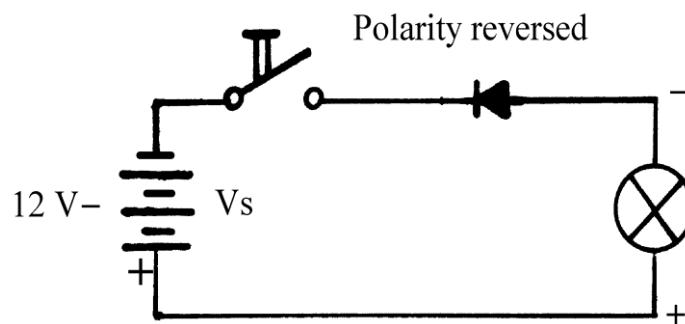

Figure 6
- With the diode connected in the same direction, reverse the supply polarity as shown in Fig. 6.